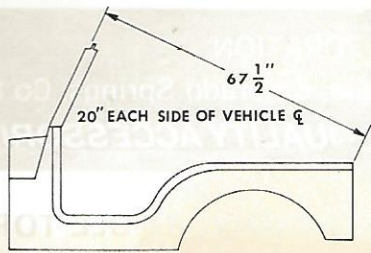

FIGURE 1
It may be necessary to achieve a better door fit. First, make **certain** windshield is properly adjusted as shown in Figures 1 & 2. After verifying proper windshield adjustment, unzip door window. Close and latch door. Identify
A. (4105 Top) Adjust CJ-5 windshield as shown in Figure 1.